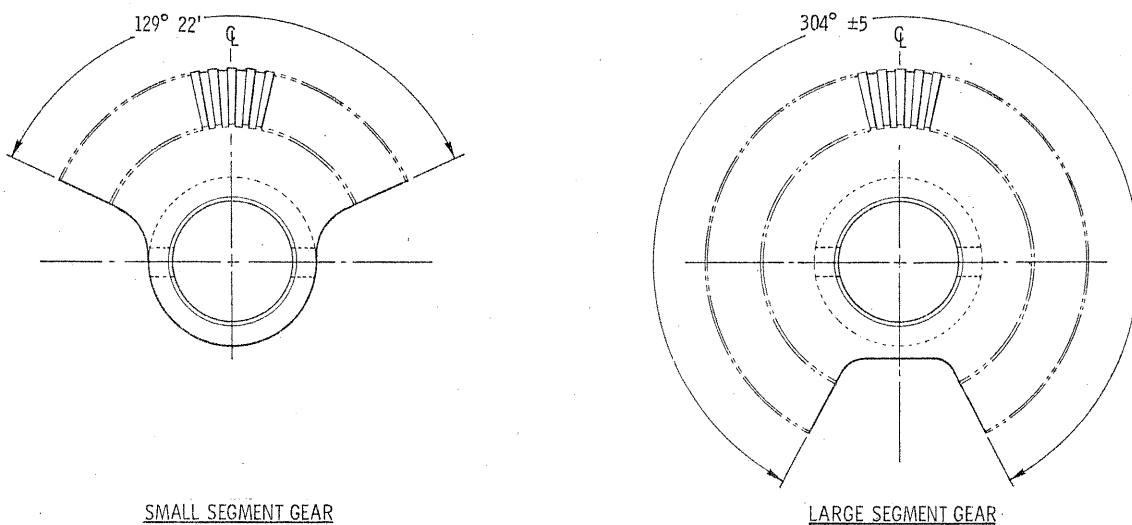

Figure 1. Throttle Gear Identification
b. Determine whether throttle gear has small or large segment. (See Figure 1.)